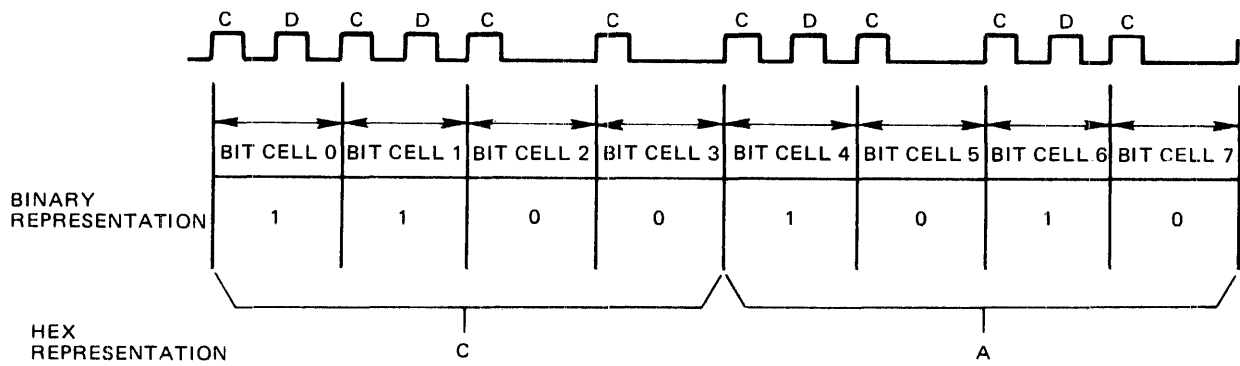

Figure 23 Bit Cell
4.1 The SA800/801 drive uses the double-frequency (2F) horizontal non return to zero (NRZI) method of recording. Double frequency is the term given to the recording system that inserts a clock bit at the beginning of each bit cell time thereby doubling the frequency of recorded bits. This clock bit, as well as the data bit, are provided by the using system. See Figure 23.